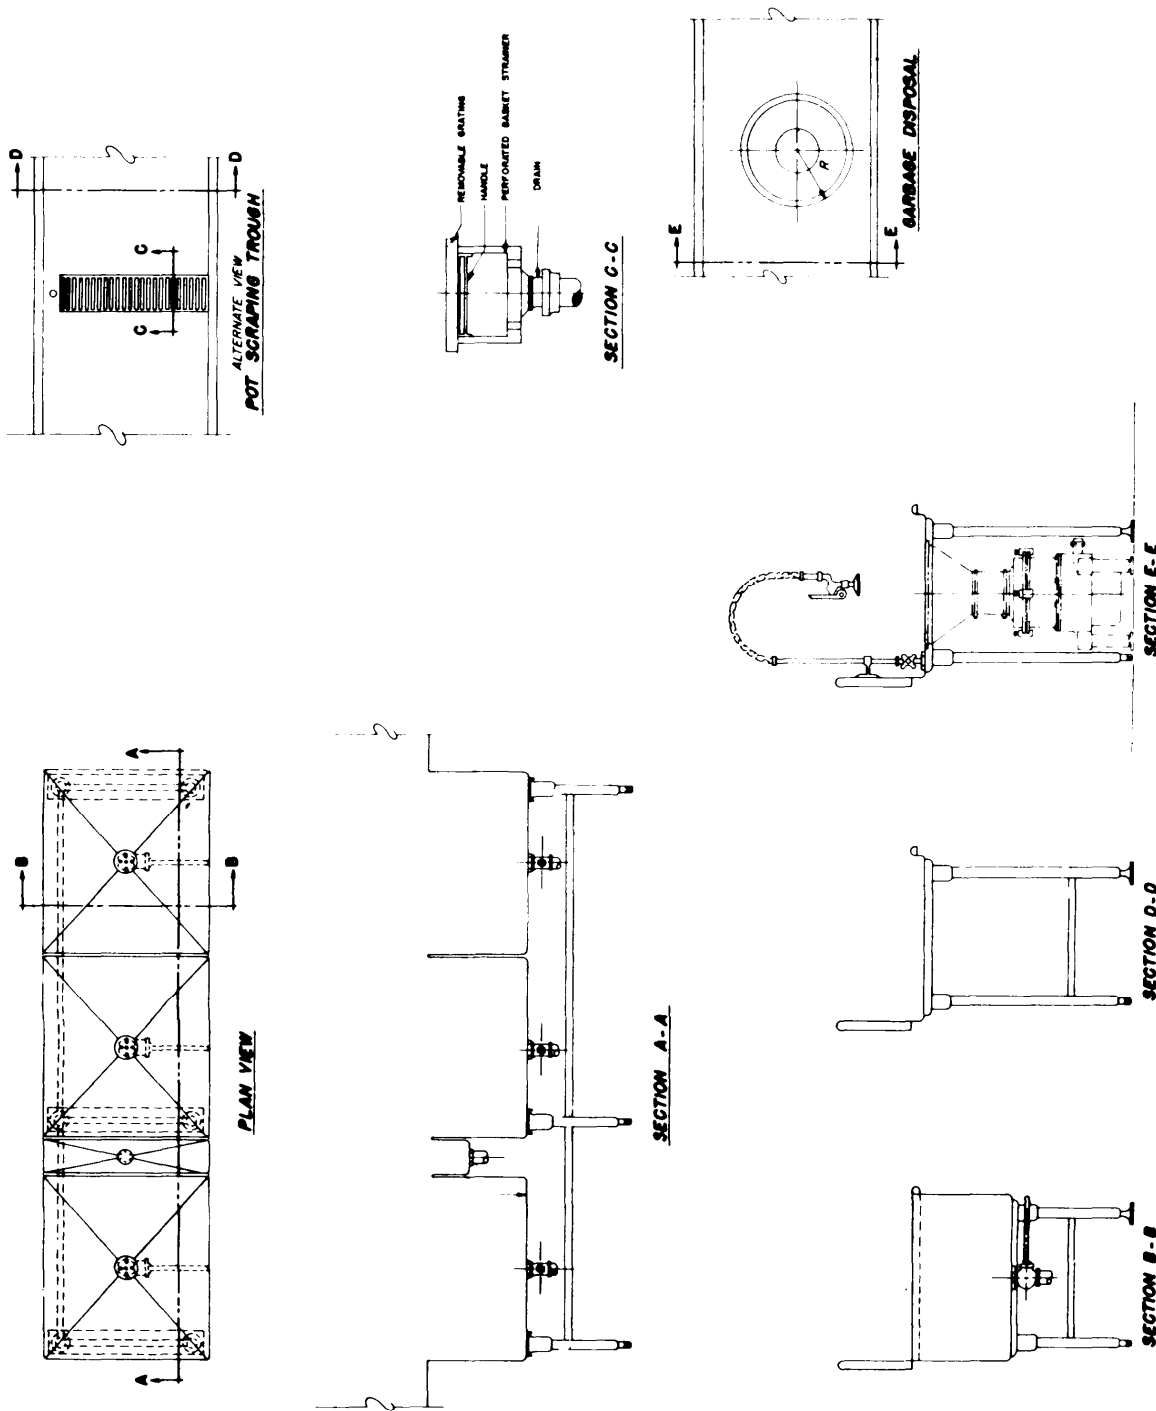

Figure 41 - Proper Washing Procedure For Pots And Pans
3. Pots and pans.- Pots and pans should be hand washed according to the procedure specified in Figure 41. Excess food particles should be placed in the garbage disposal, then the pots and pans should be prerinsed before being hand washed. Three separate sinks should be used to wash pots and pans. The pots and pans are individually washed in the first wash sink (which contains a grease trap on side) using 3 ounces of hand dishwashing compound per 10 gallons of warm water (120°F to 125°F). They should be washed thoroughly inside and outside by means of a kitchen scrub brush, FSN 7920-061-9937 or FSN 7920-061-0038. Burned food and difficult to remove stains should be removed by using a small amount of scouring powder, FSN 7930-205-0442, on a damp abrasive scouring pad, FSN 7920-753-5242, and rubbing vigorously in a circular motion until the stains